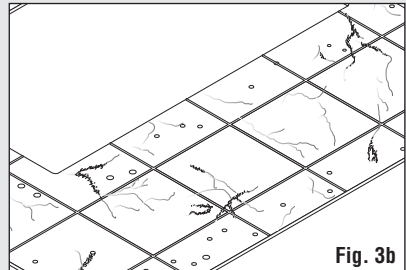

Fig. 3b
- On select cracks, brush on white glue. While glue is wet, sprinkle on Turf. Let dry and shake off excess. (**Fig. 3b**)